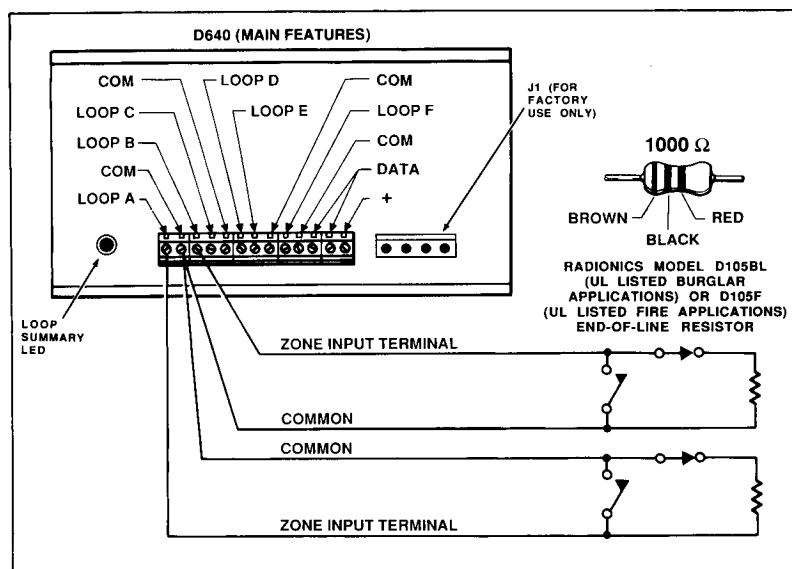

Figure 17: WIRING THE D640 PROTECTIVE ZONES
17.3 Wiring the D640 Protective Zones - D640 protective zones function independently, and are similar to loops connected to the D6112 Control/Communicator (see Figure 17 and Section 11 Protective Zone Inputs). Each zone is supervised with a 1000 ohm end-of-line resistor. Six 1000 ohm resistors are supplied with the D640: one Radionics model 105F (for U.L. listed fire applications) and five 105BLs (for U.L. listed burglary alarm applications). Dry contact sensing devices may be connected in series (normally-closed) or in parallel (normally-open) to any of these zones. Each zone can detect open circuit, closed circuit, and normal circuit conditions (refer to the table in Section 11.2 "Protective Zone Parameters" for voltages of specific circuit conditions). The D6112 is programmed with a zone code for each protective zone. The zone code determines how each zone responds to faults and arming stations. Consult the *D6112:MAIN Program Entry Guide* for programming details.